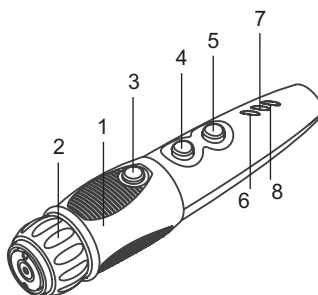

Fig.9. Handheld operation mode.
Before the work with the microscope in handheld operation mode (fig.9) ensure that the microscope is connected to PC and red power indicator goes on.
In order to capture a still image in handheld operation mode press the button (3) (fig.9) or click the icon . In order to capture a still image in on-stand operation mode click the icon .